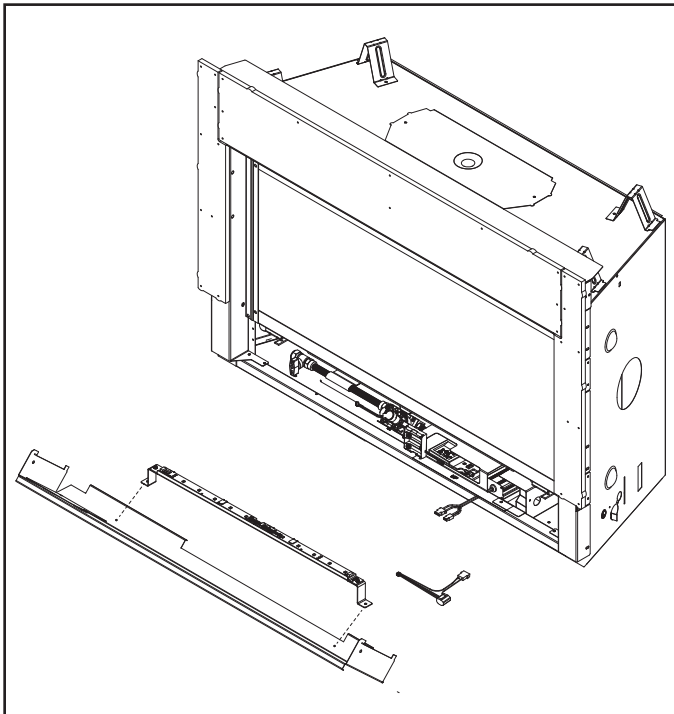
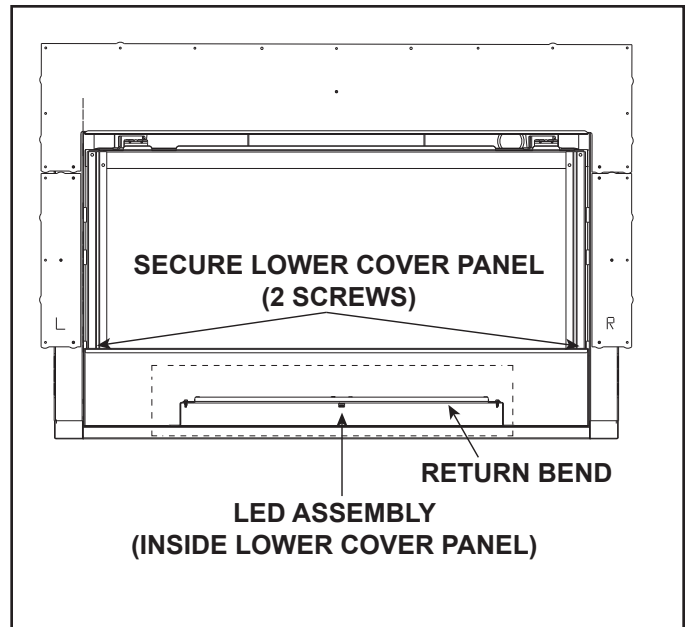

Figure 3. Install LED Assembly
Figure 4. Location of Installed LED
8. The LED assembly is to be secured to the lower cover panel by utilizing two screws that correspond to the two pilot holes in the lower cover panel. Position the LED assembly to the lower cover panel so that the return bend faces away from the gas valve. Secure with two screws. See Figure 3 and Figure 4.
9. Reinstall the lower cover panel onto the appliance and secure with two screws. Ensure the LED wires are out of the way of the side of the lower cover panel and are not touching the LED assembly. See Figure 4.
Note: Figure 4 shows a “see-through” view of the installed LED assembly inside the lower cover panel.